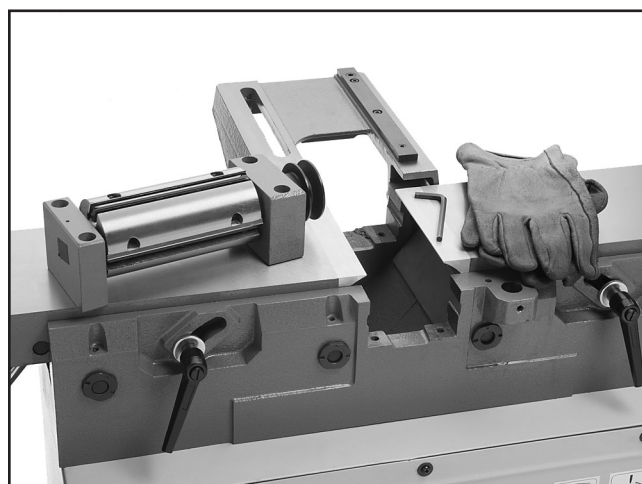

Figure 5. Example of cutterhead removed.
10. Carefully remove the bearing blocks and cutterhead from the casting (see **Figure 5**).